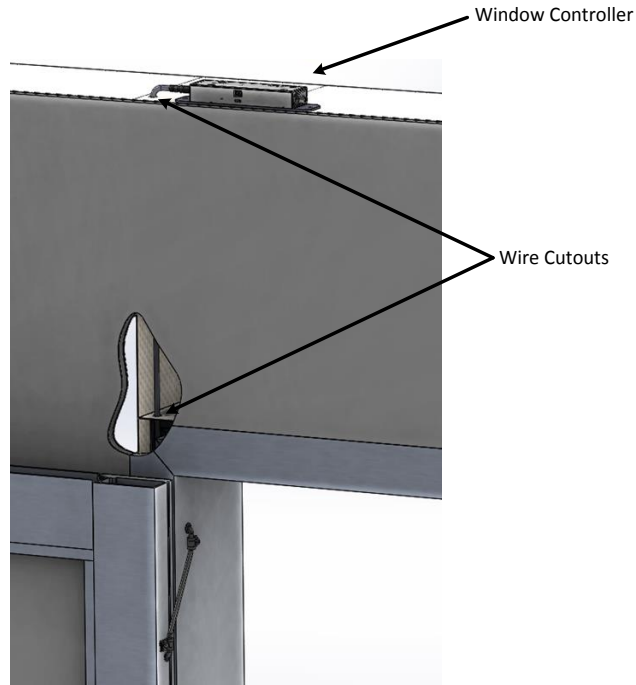

Figure 2 - Wire Cutout Examples
4. Openings in the walls will be required to gain access to the framing system so that the Flex Loop can be connected (figure 2).